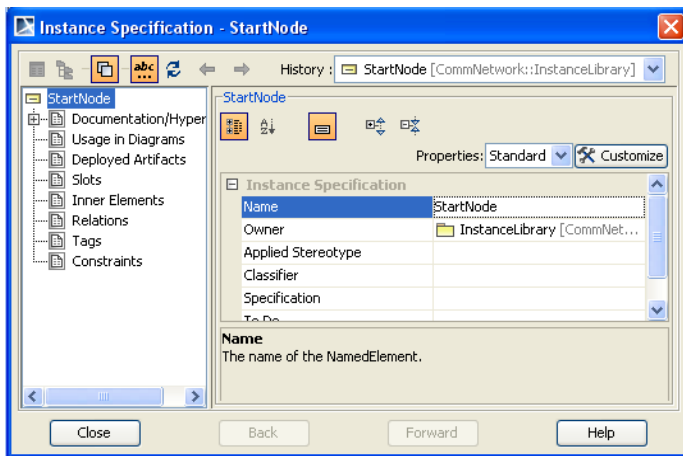

Figure 5.10a Instance Specification window
- iii. Double-click on StartNode to open Instance Specification window (Figure 5.10a).
- vi. Click Slots in Instance Specification window (Figure 5.10a) and double-click on each of the value properties to activate them. For the StartNode instance, we assume a given input signal level by assigning R1 as 10 (arbitrary units) and R2 as 0. All the remaining slots are left empty. Click Close at the end.